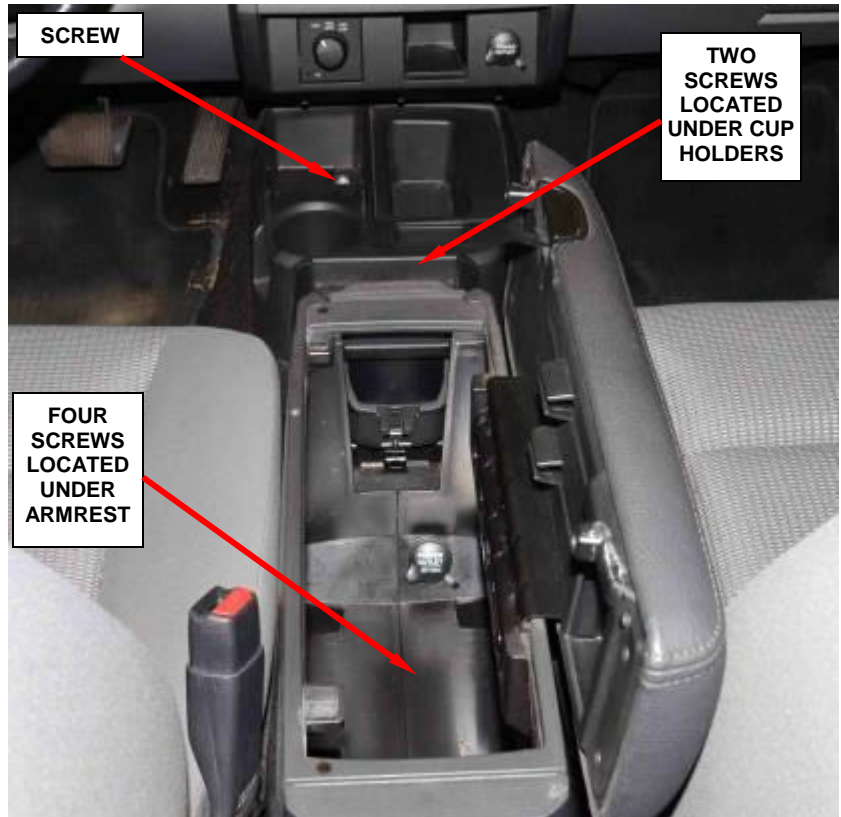

Figure 99 – Floor Console (ATX Shown)
- d. Remove the screws that secure the floor console to the floor panel (Figure 99).